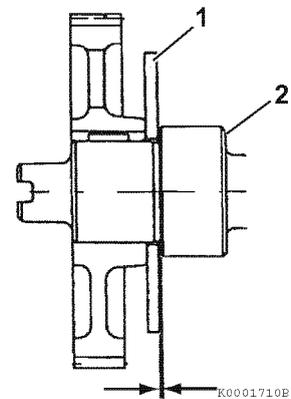

Figure 6-53
- **Method B:** Use a feeler gauge to measure the clearance between the thrust plate (1, **Figure 6-53**) and front camshaft bearing (2, **Figure 6-53**). See *Thrust Bearing* on page 6-10 for the service limit.